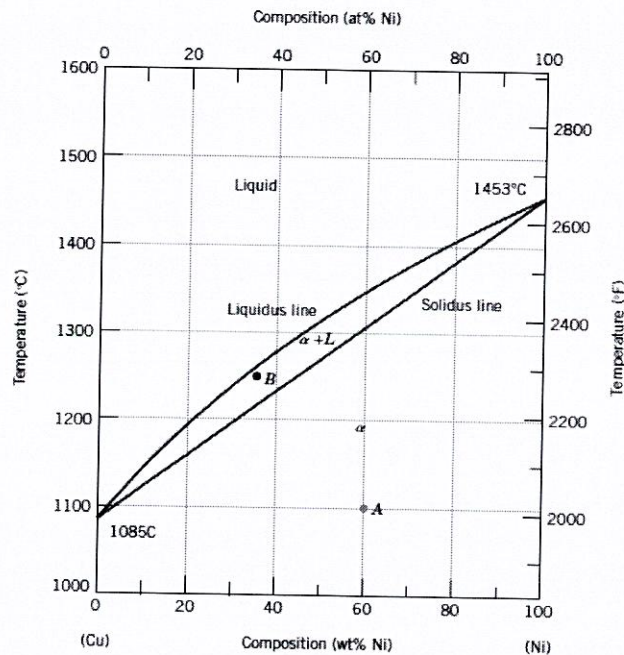

Figure 2(c)/ Rajah 2(c)
- CLO1 (c) A binary phase diagram is a graphical representation that shows the phases (solid, liquid, gas) present in a two-component system at equilibrium, as a function of temperature and composition, under constant pressure. Figure 2(c) illustrates the copper-nickel phase diagram.